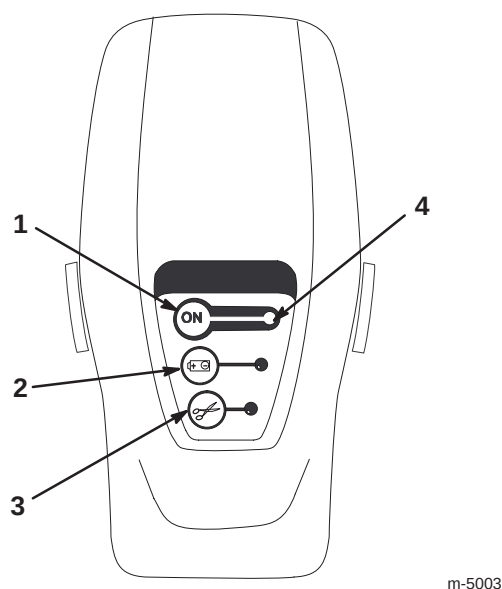

Figure 14
5. Check the connections by pressing the *On* button of the perimeter switch (Refer to Operating the Perimeter Switch on page 15). The *On* light blinks when all the connections are good. The *Wire Disconnected* light blinks and an audio signal “beeps” when there are any breaks in the perimeter wire or when there is a bad connection (Fig. 14).